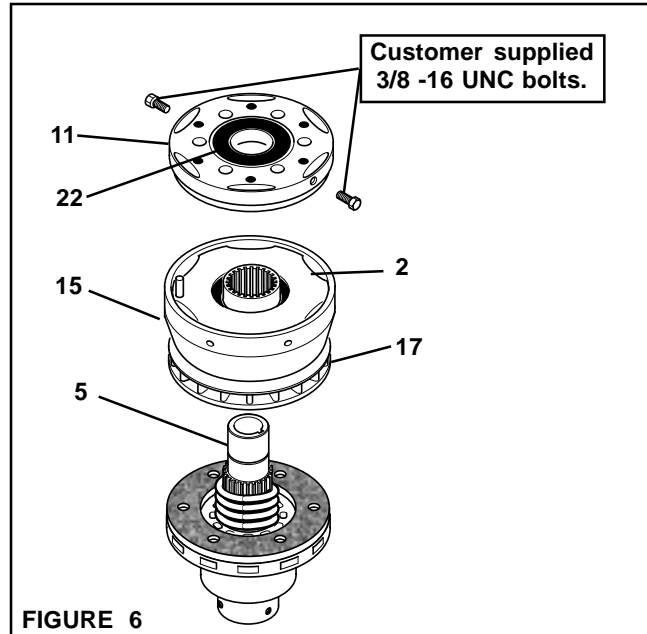

FIGURE 6
4. Insert two customer supplied 3/8-16 UNC bolts into the anti-rotation holes located on the O.D. of the Piston Guide (Item 11) (See Figure 6).
5. Support the STC on the two bolts installed in Step 4; then, press the Piston Guide (Item 11) and Ball Bearing (Item 22) off the Hub (Item 5) (See Figure 6).
7. Slide the Drive Ring (Item 2), Rotor (Item 17), and Shroud (Item 15) off the Hub (Item 5) (See Figure 6).
12. Slide the Drive Ring (Item 2), Rotor (Item 17), and Shroud (Item 15) onto the Hub (Item 5) (See Figure 6).
13. Press the Piston Guide (Item 11) and Ball Bearing (Item 22) onto the Hub (Item 5) (See Figure 6).
14. Remove the two customer supplied 3/8-16 UNC bolts from the anti-rotation holes located on the O.D. of the Piston Guide (Item 11) (See Figure 6).